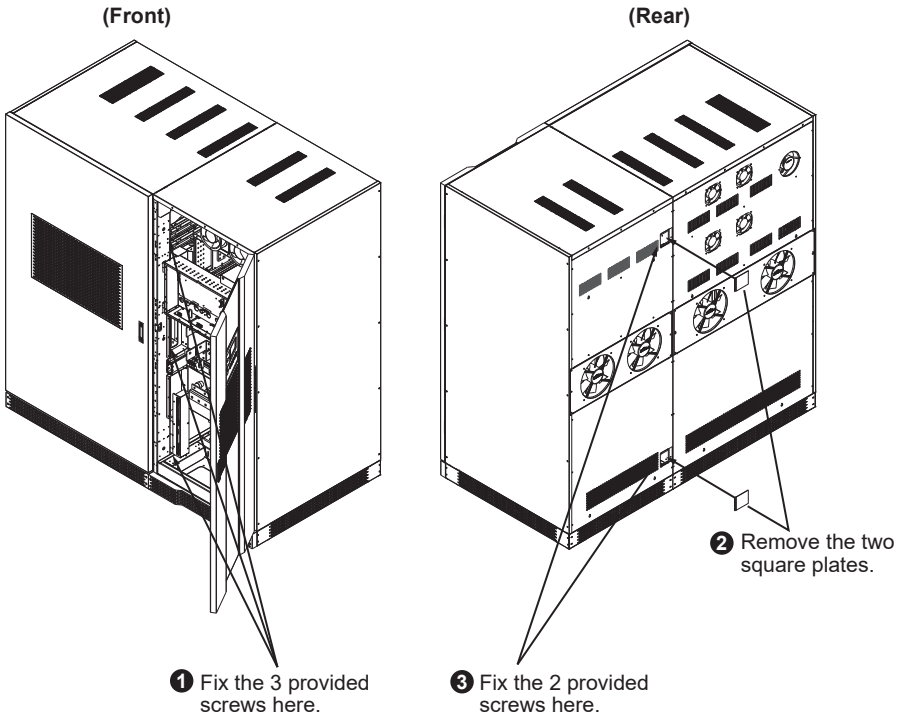

Figure 4-35
- There are 5 junction points (see **Figure 4-35**).